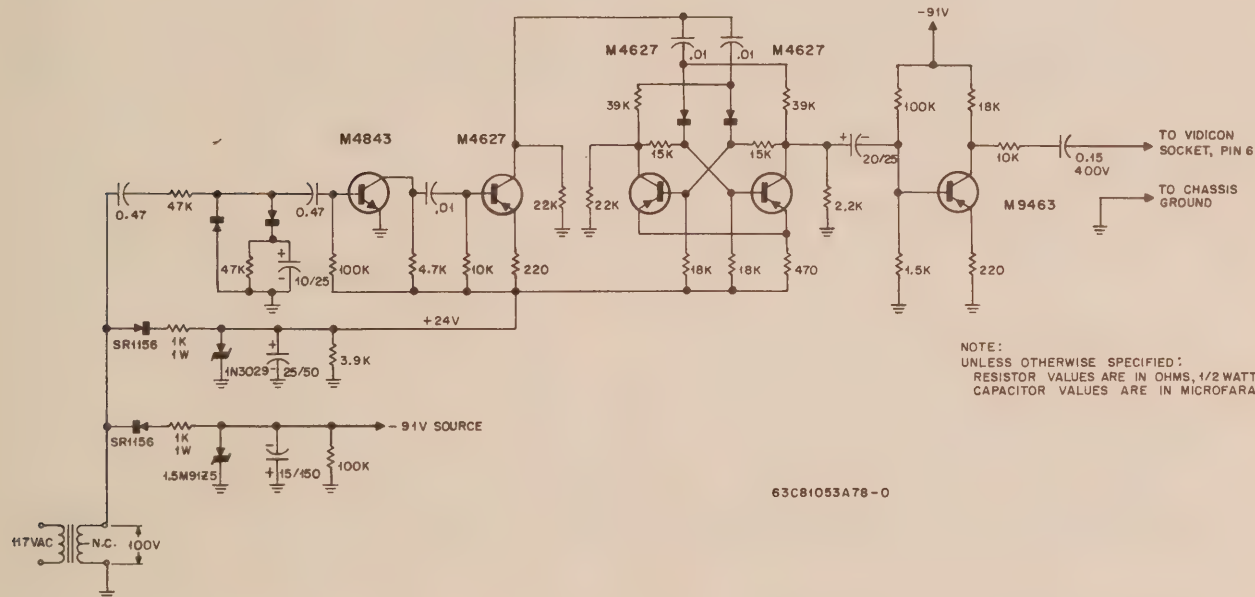

Figure 13.
1. Attach the Wobbulator as shown in Figure 13.